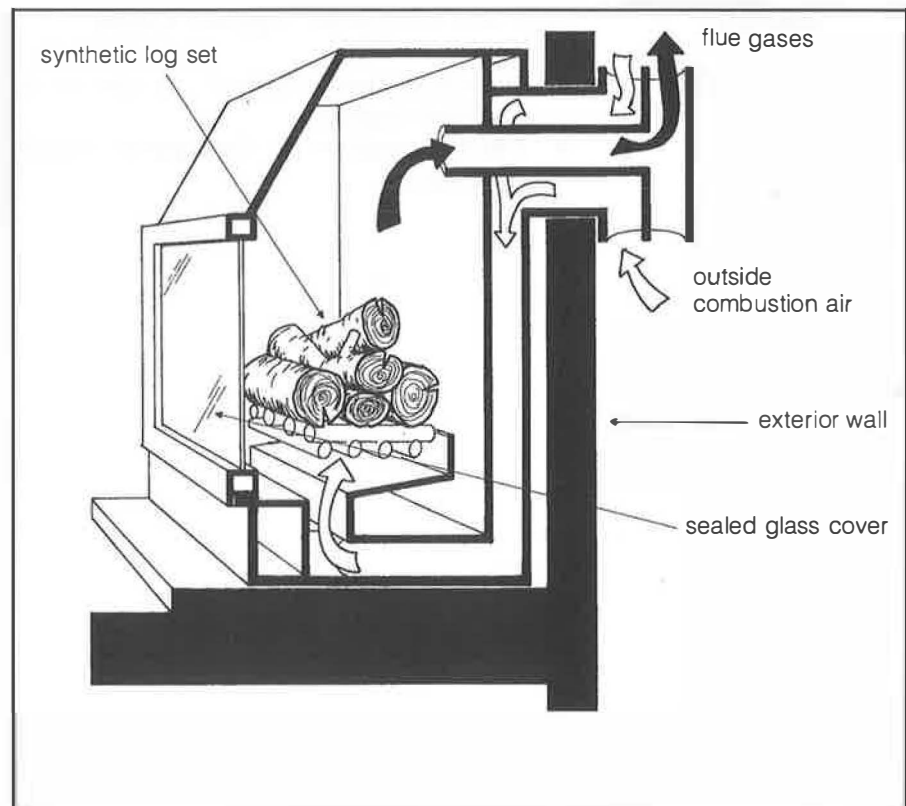

Fig. 9. Sealed-combustion gas fireplace
- Install a sealed-combustion gas fireplace (*fig. 9*). This unit draws combustion air directly from the outside through a concentric flue, completely isolating the combustion process from the house. These units can be located only on an outside wall.